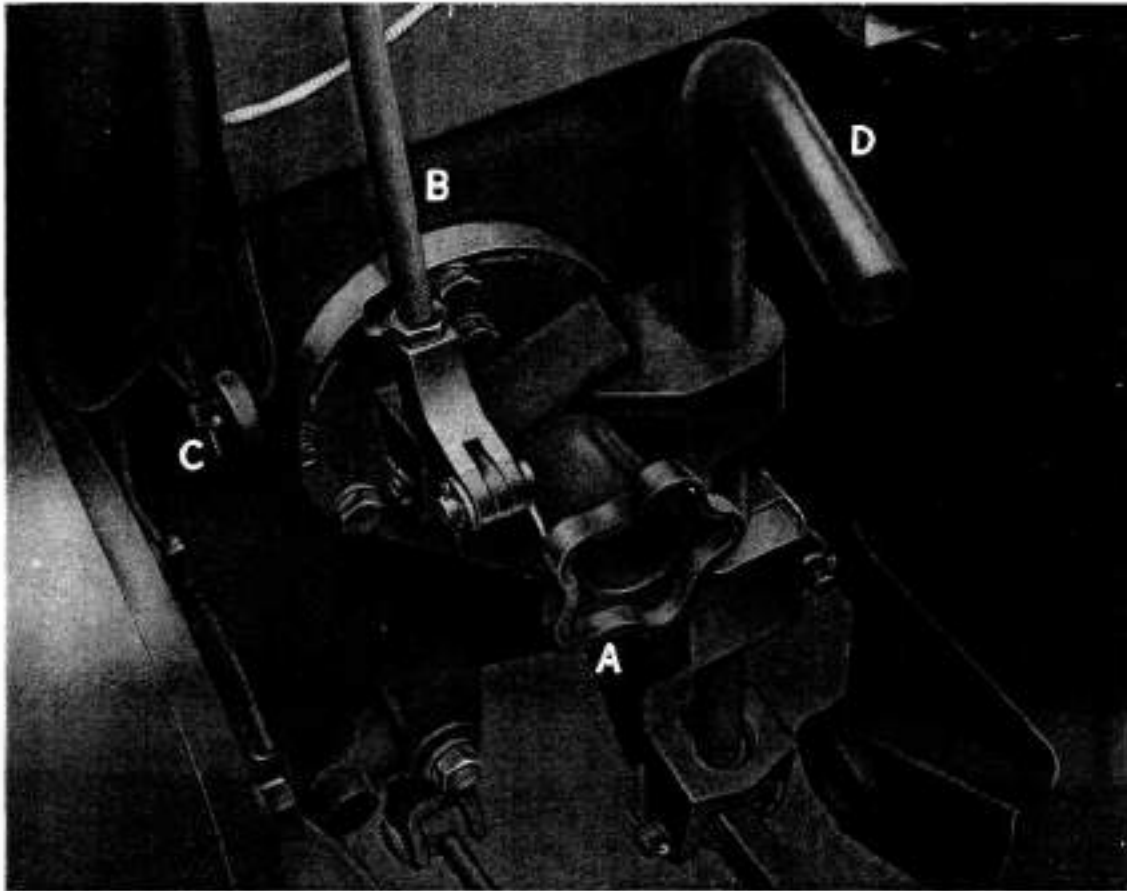

FIG. 36.
Hand wheel A, Fig. 36, fitted at the front right side of the axle case.
2. To adjust the amount of traction control, turn the hand wheel A, Fig. 36, in a clockwise direction, as indicated by the arrow to increase the traction or in an anti-clockwise direction to reduce the traction. The hand wheel adjusting screw has a maximum of four complete turns and each turn requires six "clicks" of the graduated adjustment.